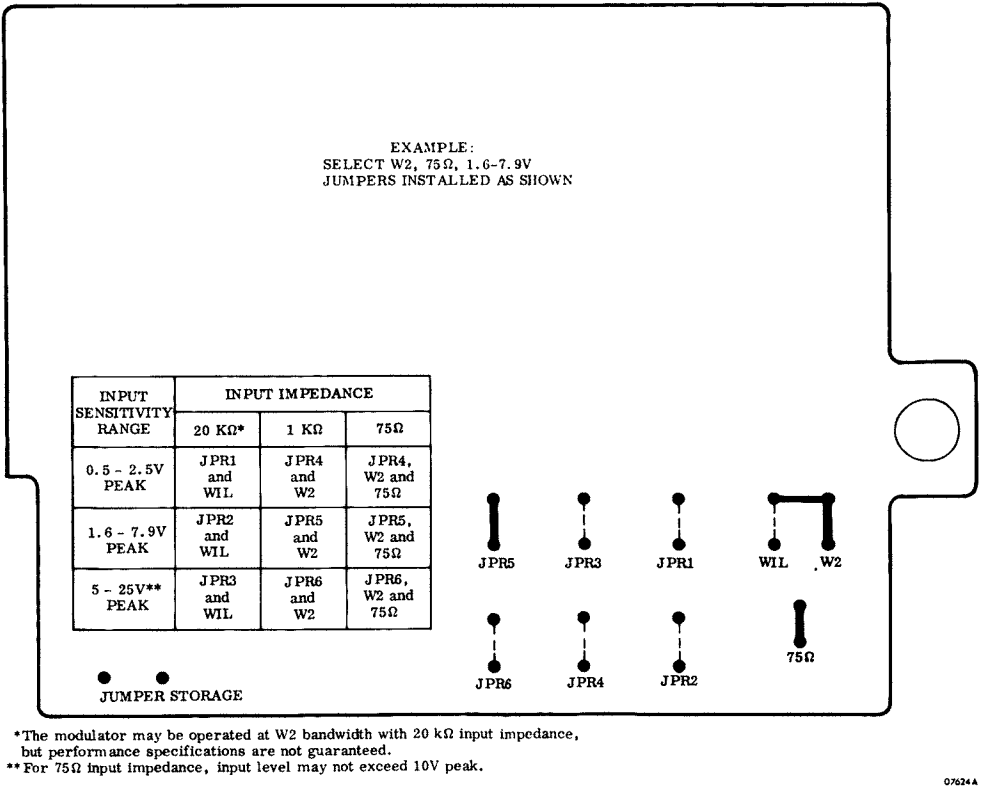

Figure 3-9. FM Modulator Showing Jumper Positions
- c. Monitor the data or test signal input to each connector with a suitable oscilloscope or meter to ensure correct record signals. The input sensitivity and impedances of each FM modulator module is determined by inserting jumpers as shown in Figure 3-9. (See paragraph titled "Changing Input Sensitivity Ranges and Impedances.") Modulator deviation level control adjustment is discussed in paragraph titled "FM Modulator Deviation Adjustment". Do not change modulator deviation or demodulator output level settings without consulting the reference paragraphs.
If the new input amplitude is not within the sensitivity range for which the modulator is jumpered (see Figure 3-9), a different range must be selected. In order to adjust the REC (DEVIATION) LEVEL control, the operator must know the output level to which the FM demodulator is calibrated.
CHANGING INPUT SENSITIVITY RANGES AND IMPEDANCES. The fm modulator has three input sensitivity ranges and three input impedances as listed in Figure 3-9. These ranges and impedances are selected by jumpers which plug into appropriate positions on the fm modulators. To change from one range or impedance to another, proceed as follows:
- c. Arrange jumpers on the module to obtain the desired input sensitivity and impedance as illustrated in Figure 3-9.
The reproduce output level control should be adjusted only to compensate for changes in output load requirements, not for changes in input level. In order to adjust the output level control, the operator should know the maximum record input level range (see table in Figure 3-9) and the STANDARD INPUT SIGNAL LEVEL for which the channel is calibrated.